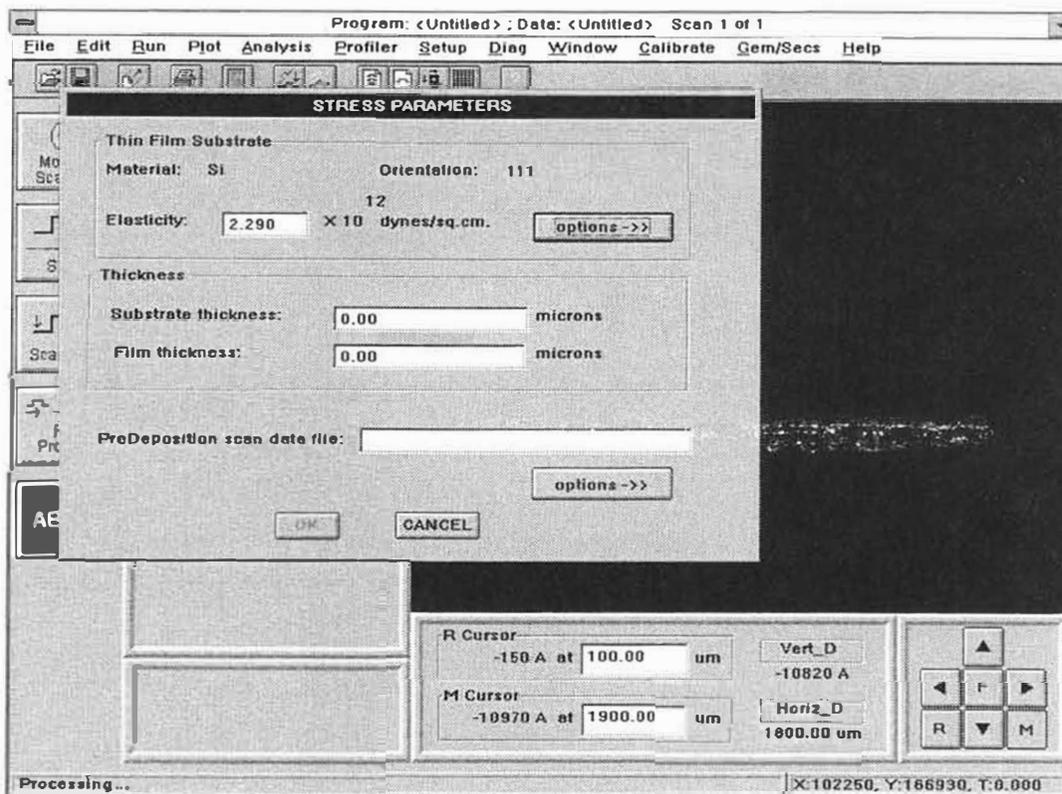

Figure B-2. Stress Measurement Dialog Box
3. Click-on "Compute Stress" from the Analysis Menu. The stress dialog box will be displayed (see Figure B-2).